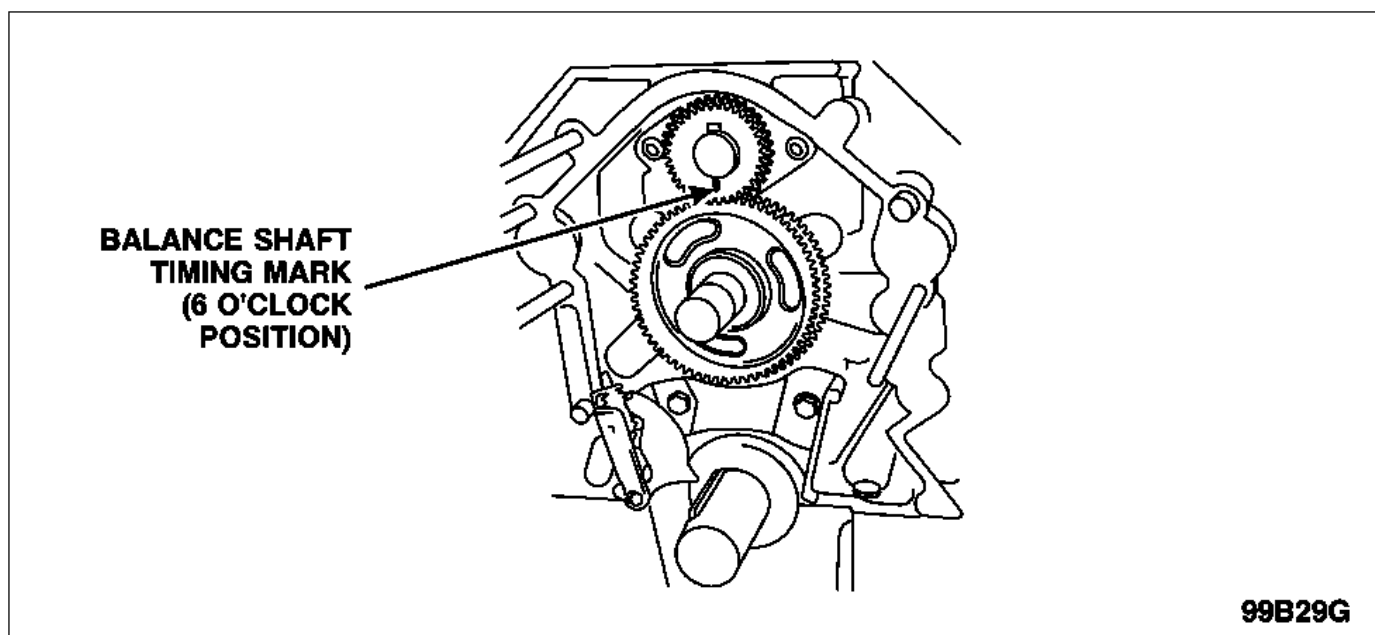

FIGURE 7
2. Make sure the balance shaft timing mark is at the 6 o'clock position. See Figure 7.